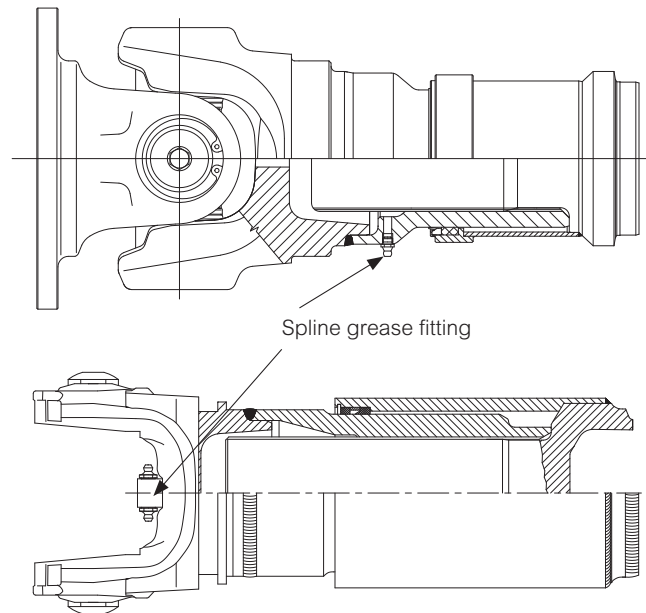

Figure 8 — spline grease fitting location. On the OD (top), or between the yokes (bottom)
- 6.14 Length compensation (spline): If the spline is equipped with grease fittings, it shall be re-lubricated every time maintenance of the cross journal assemblies is carried out. It is recommended that the spline be lubricated in the compressed position to prevent hydraulic grease lock. If the spline section is not equipped with a relief fitting, once the spline has been greased, the grease fitting should be removed to relieve grease pressure and prevent the spline from locking. The possible location of the grease fittings is shown in Figure 8.